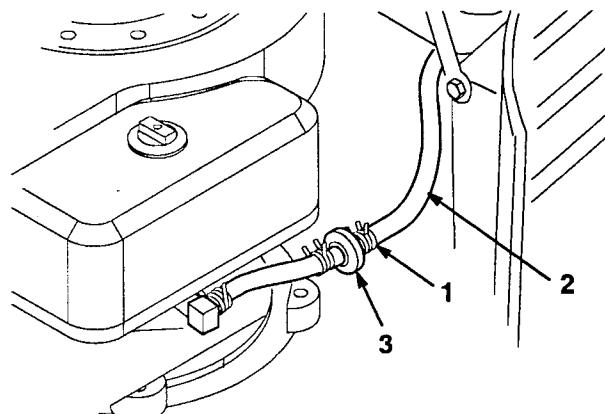

Figure 24
The best time to replace the fuel filter (Fig. 24) is when the fuel tank is empty. Never install a dirty filter if it is removed from the fuel line.
3. Squeeze the ends of the hose clamp together and slide it up the fuel line toward the fuel tank (Fig. 24).
4. Pull the fuel line off the filter (Fig. 24) and allow gasoline to drain into a gas can or drain pan.
3. Squeeze the ends of the hose clamps together and slide them away from the filter (Fig. 24).